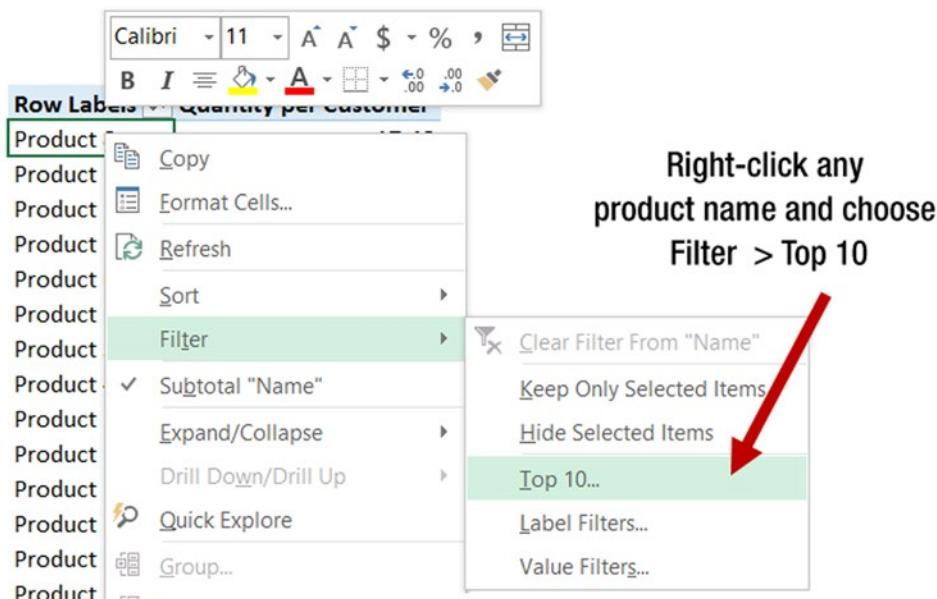

Figure 24-22. Filtering top five products using the Top 10 value filter
5. To do that, right-click any product name and choose Filter ► Top 10. See Figure 24-22.